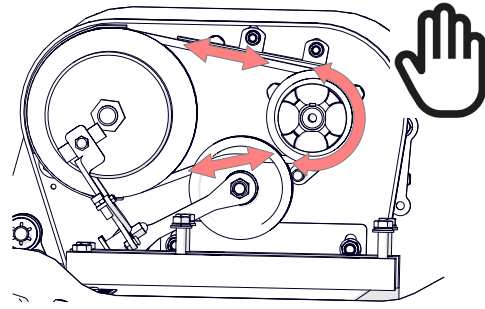

Fig.15H - Check correct tension by moving the pulley by hand.
10. Engage the drive lever. Ensure that when the output shaft is turned (manually), the belt moves and turns the drive shaft pulley (Fig.15H). Adjust the tension of the cable and arm to achieve this.